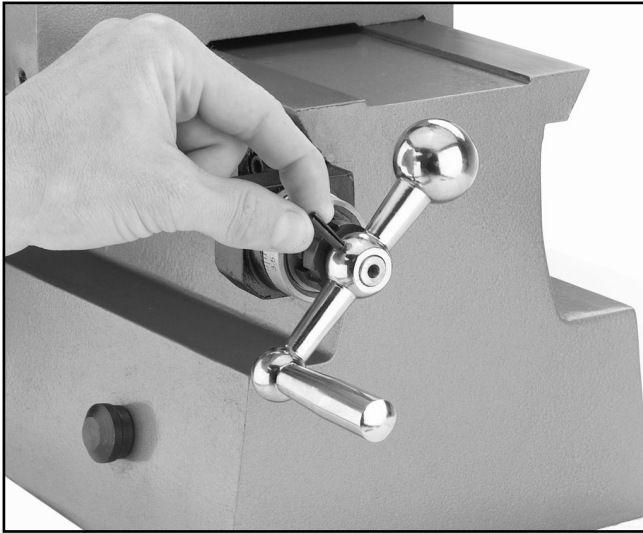

Figure 5. Place roll pin in hole and tap with hammer.
3. Place the 4mm roll pin into the hole as in **Figure 5** and drive it in with a hammer.